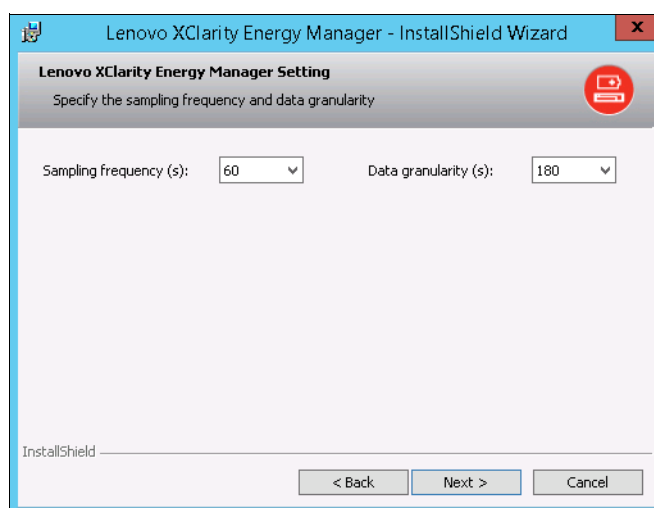

Figure 7-29 Set frequency and granularity of data
8. Set the sampling frequency and granularity of data as shown in Figure 7-29.